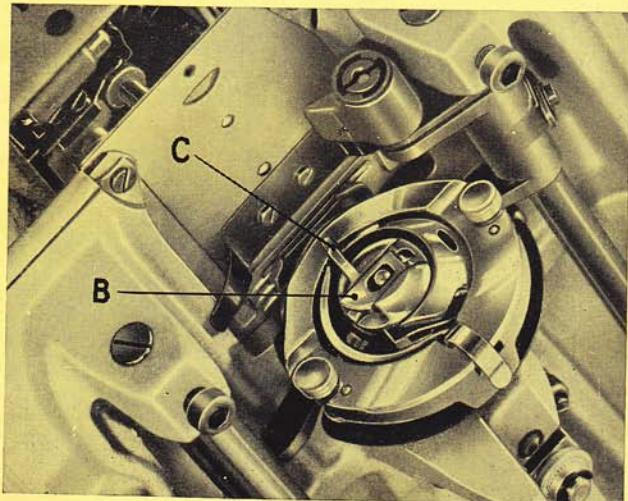

Fig. 8
- c) With thumb and forefinger of one hand, lift latch "B" of bobbin case (Fig. 8) and pull bobbin case out of machine.
- e) With thumb and forefinger of left hand, take bobbin case (into which full bobbin has been inserted) by the latch and place it on the center stud of the shuttle. The position finger "C" (Fig. 8) must go into the notch on top of the race plate.